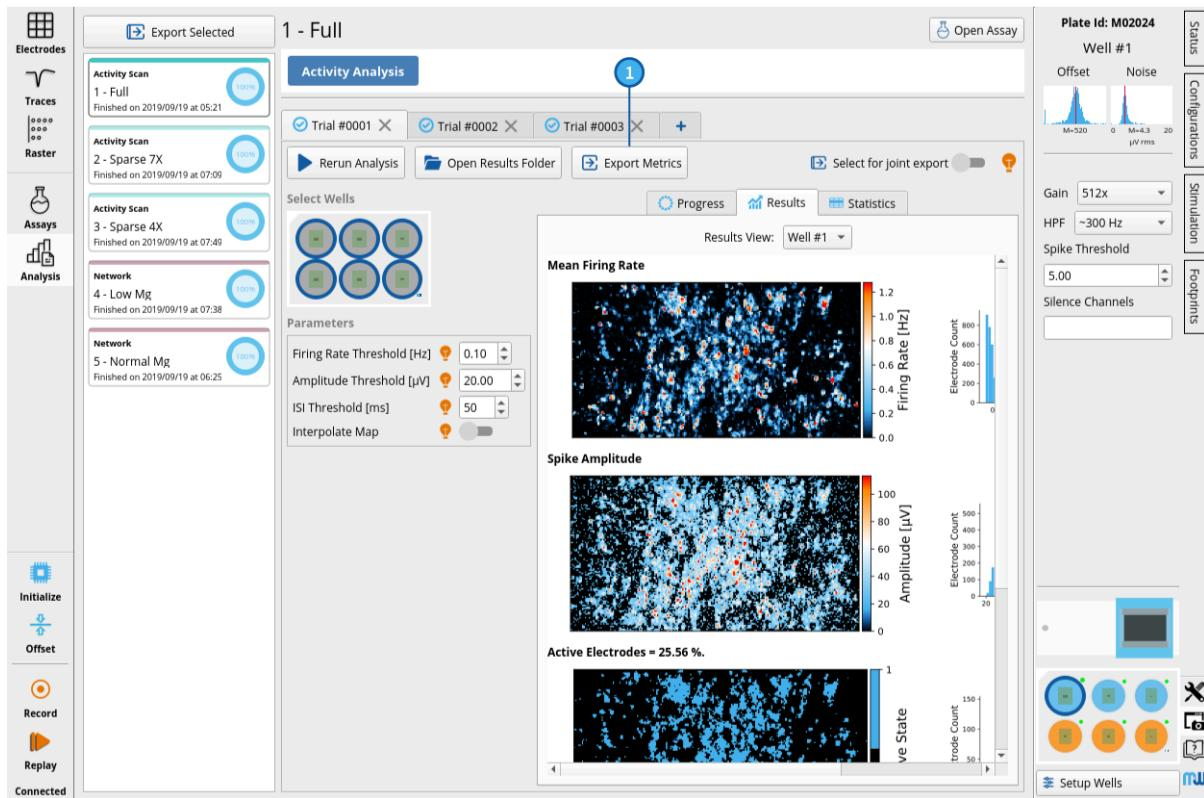
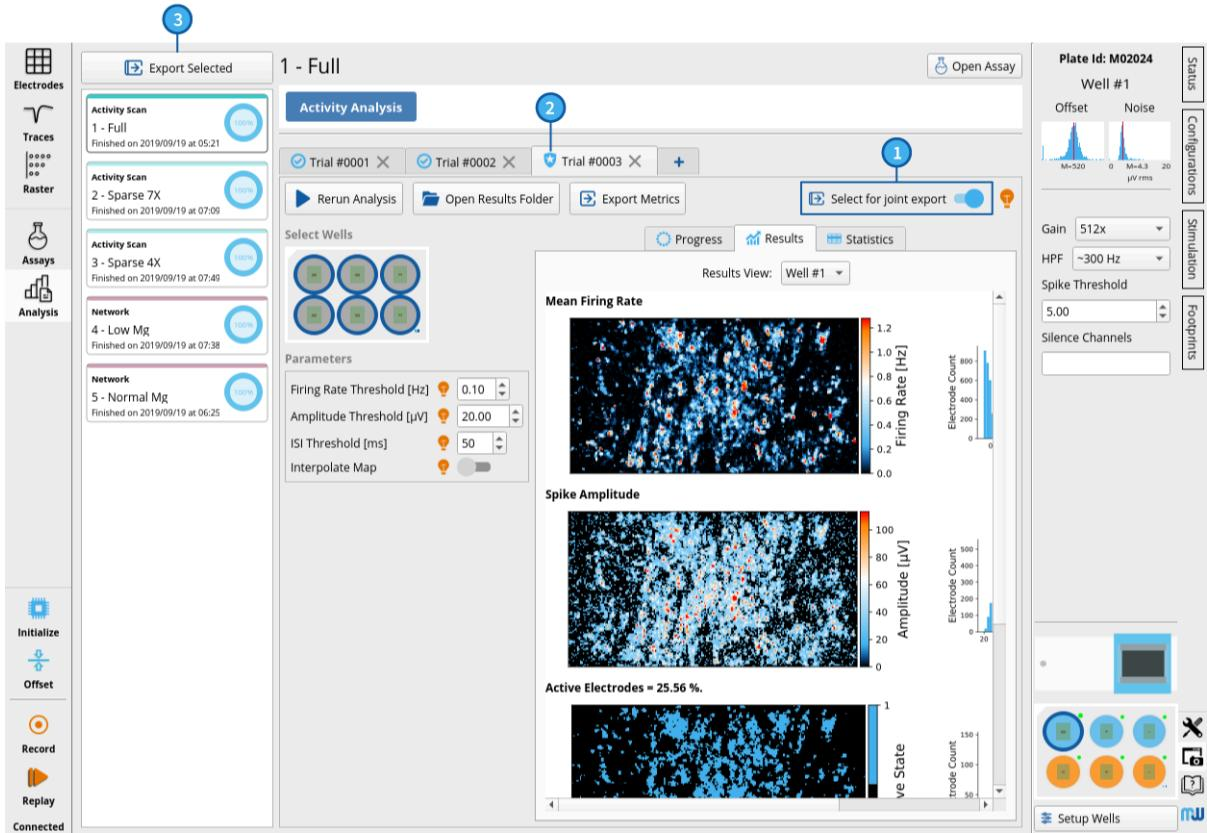

Figure 8.6. Exporting Metrics from a Single Analysis Trial
Figure 8.8. Exporting Metrics from Multiple Analyses
The metrics extracted from the analyses (see Table 9.2 and Table 9.4) may be exported in CSV and Excel formats for further analysis with other statistical tools. The metrics can either be exported from a single recording's analysis (Figure 8.6) or from multiple analyses combined (Figure 8.8).
To export data from a single analysis, navigate to the desired analysis trial and click the **Export Metrics** button (Figure 8.6 (1)).
1. For every assay analysis and/or trial that is to be jointly exported, activate the **Select for joint export** switch (Figure 8.8 (1)). Trials selected for joint export can easily be recognized by the appearance of a starred shield icon next to the trial label (Figure 8.8 (2)). Note that data from multiple Analysis Trials of the same recording, as well as data from different recordings, can be selected and exported together.
2. Click on the **Export Selected** button (Figure 8.8 (3)).